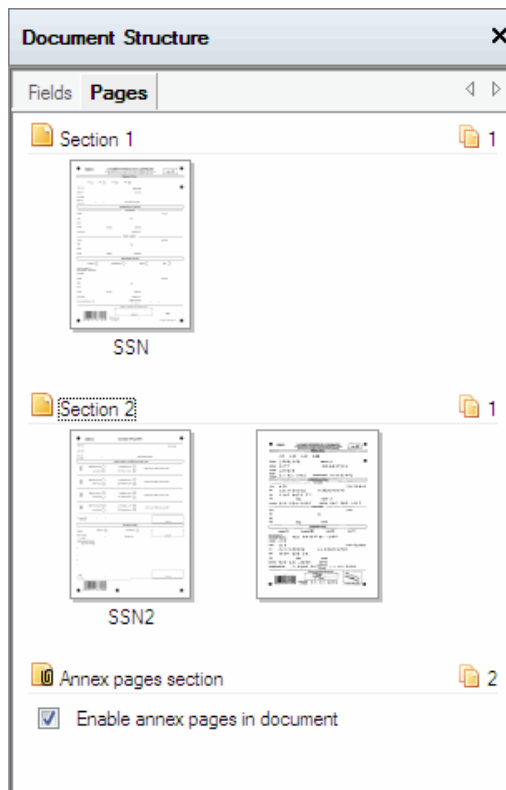

Figure 14. Document structure, Thumbnails view mode
- In the **Document Structure** window on the right side of the Document Definition Editor window, click the **Pages** tab and select **Enable annex pages in documents**. Enter the number (or range) of annex pages in the square that appears to the right of the section name (Figure 14), or